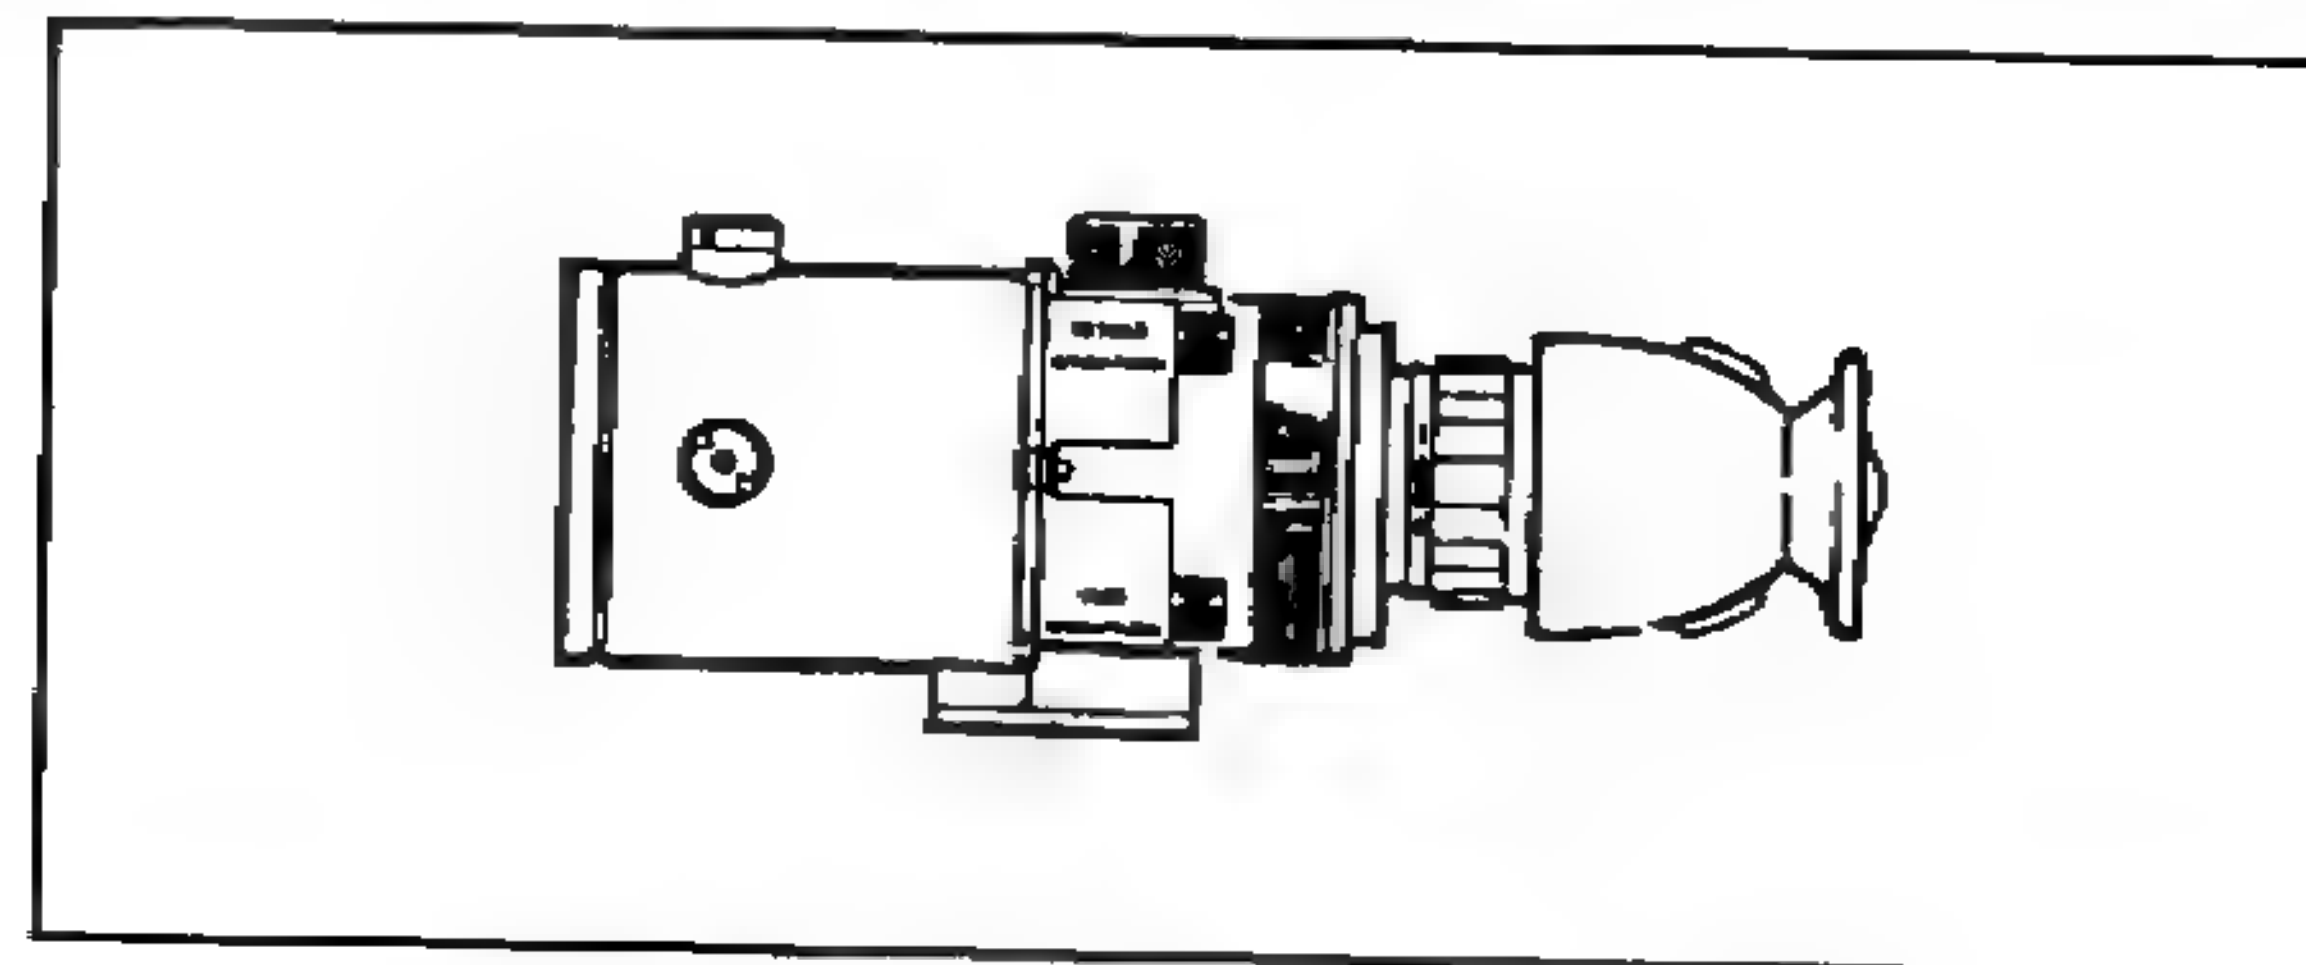

Figure 2-26. Night vision sight, AN/PVS-4.
a. **Night Vision Sight, AN/PVS-4.** The AN/PVS-4 is a portable, battery-operated, electro-optical instrument that can be hand-held for visual observation or weapon-mounted for precision fire at night (Figure 2-26). The observer can detect and resolve distant targets through the unique capability of the sight to amplify reflected ambient light (moon, stars, or sky glow). The sight is passive; thus, it is free from enemy detection by visual or electronic means. This sight, with appropriate weapons adapter bracket, can be mounted on the M16 rifle.